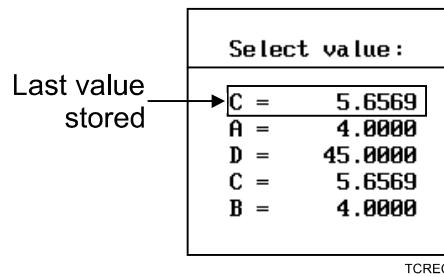

Figure 6-8, Triangle Calculator Select value: Pop-up Menu
3. Highlight the **Triangle Calculator** template and press **ENTER** to display the Triangle Calculator **Select value:** pop-up menu. Refer to **Figure 6-8**.